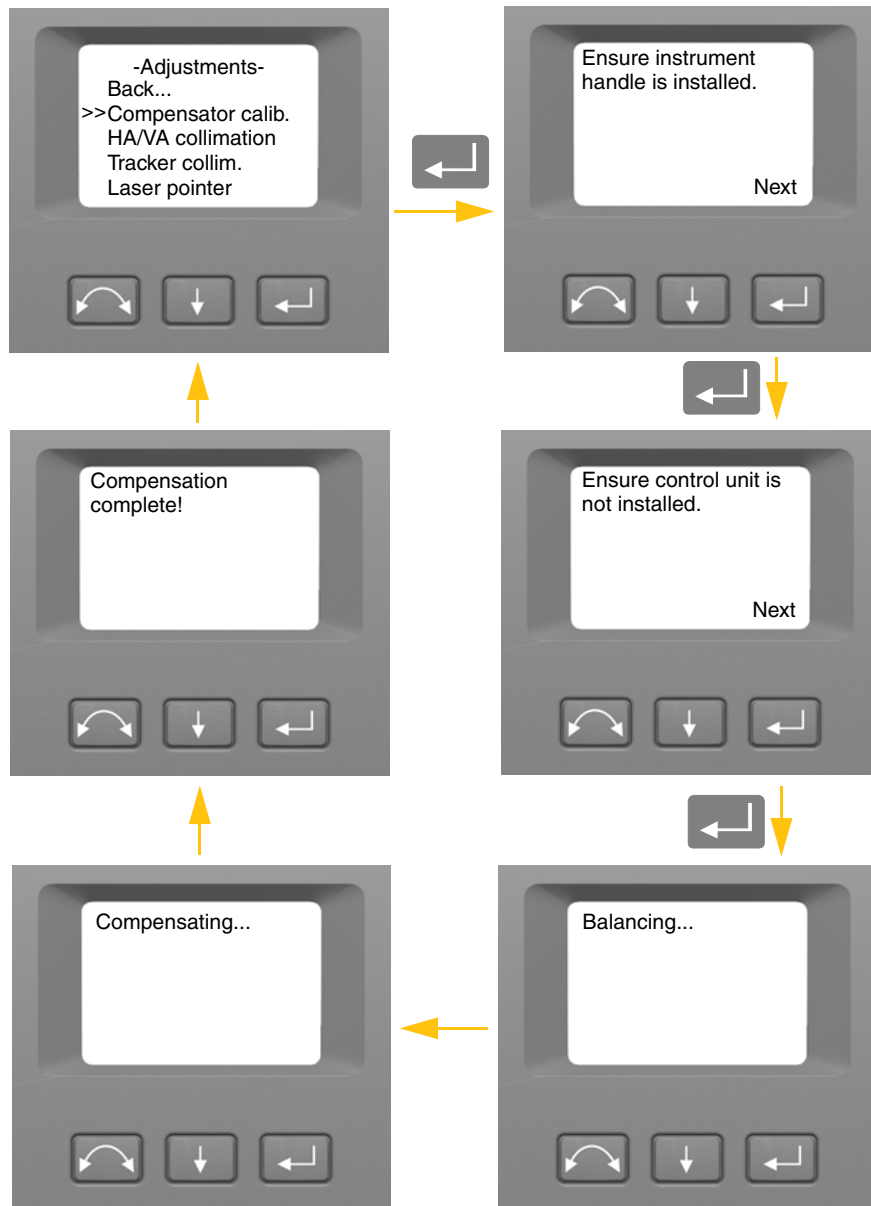

Figure 4.3 Compensator calibration routine
3. Follow the instructions in the display. Figure 4.3.